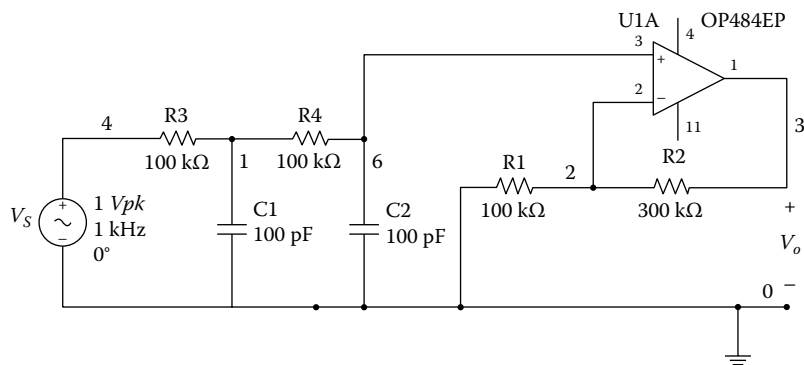

FIGURE P5.8
Problem 5.8 Build the circuit shown in Figure P5.8. Use the Network Analyzer of the Analog Discovery board to: (1) Obtain the Bode plot of the filter. (2) Measure the cut-off frequency. (3) Obtain the low-frequency gain of the circuit.